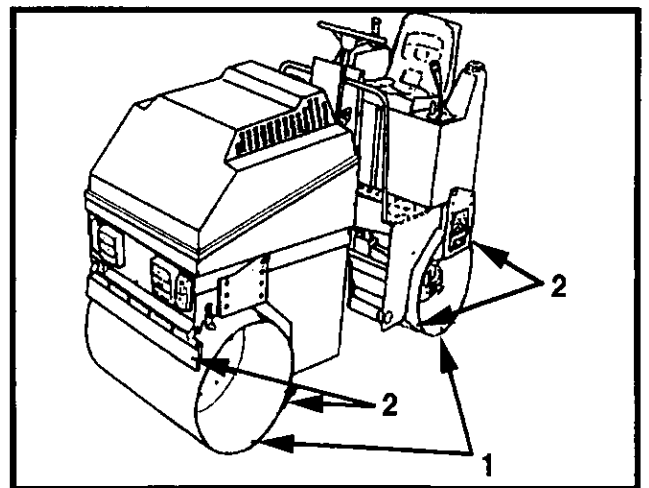

Figure 5-14 Drums and Drum Scrapers
1. Perform a visual inspection of the drums (1, Figure 5-14) and remove any material adhering to them.
2. Check the drum scrapers (2, Figure 5-14) to ensure they are not damaged. Replace any damaged drum scrapers that require attention.